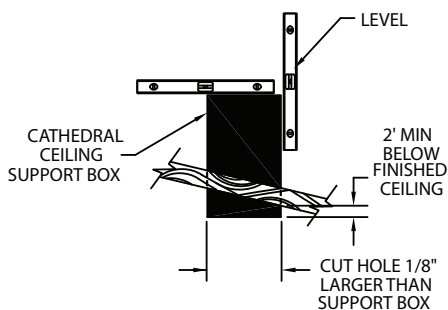

Figure 20
Step 4. Lower the Support Box through the hole in the roof until Support Box protrudes at least 2-inches below the low side of the ceiling (**Fig. 20**). Align the Support Box both vertically and horizontally with a level. Temporarily tack the Support Box in place through the inside walls and into the roof sheathing.